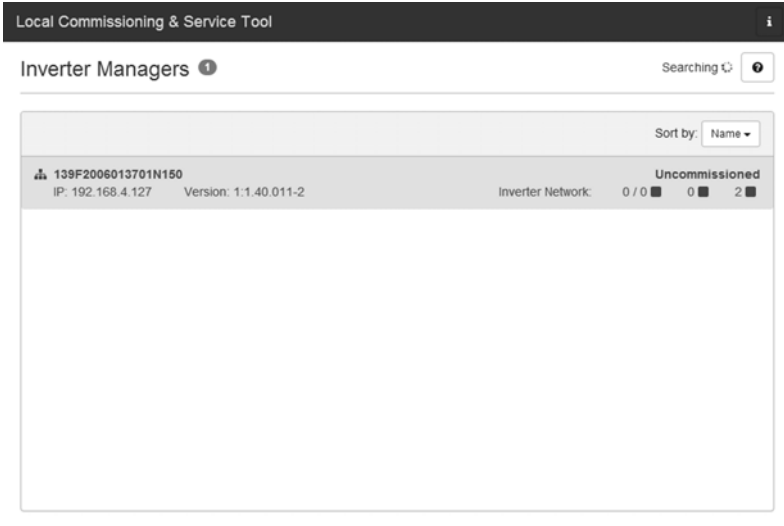

Figure 5.2 LCS tool - start screen
2. The screen now shows a list of all Inverter Managers (see figure 5.2). To start the assistant, click on the Inverter Manager to be configured. By clicking on the Inverter Manager, the inverters found by the Inverter Manager are displayed. Inverters that have not been commissioned (no grid code assigned) are presented with a blue square together with their software version.